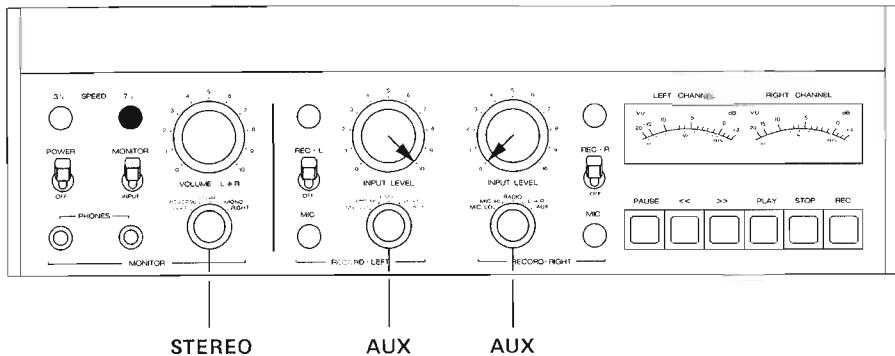

Fig. 6.5.-7
- Bedienungselemente nach Fig. 6.5.-7 einstellen.
- Set operating controls as per fig. 6.5.-7. Crosstalk L → R.
- Connect wave analyzer to OUTPUT R (51).